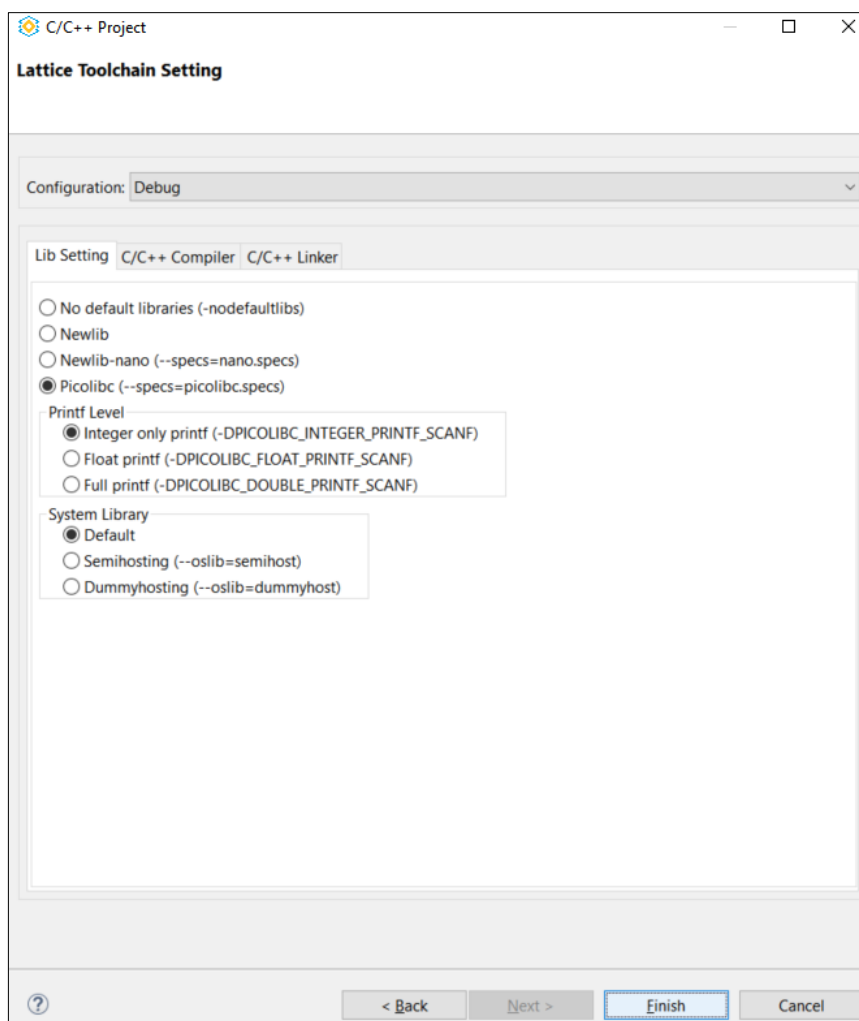

Figure 7.19. C/C++ Lattice Toolchain Setting
- Click **Next**. The Lattice Toolchain is shown in Figure 7.19 and click **Finish**.